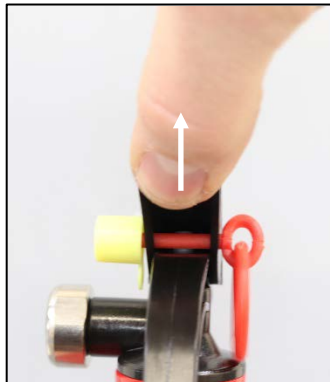

Figure 3: push lever up
3. Push the lever up carefully with low force and using only one finger (Figure 3).